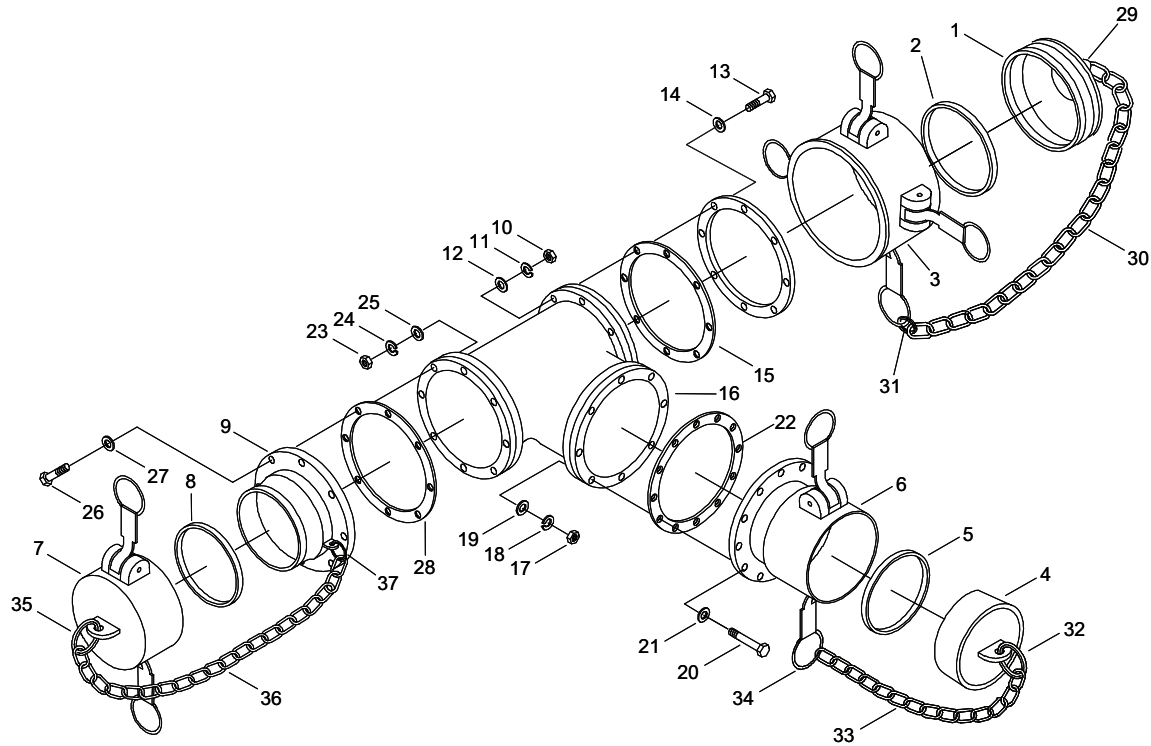

Figure 1. 6 In. Male X 6 In. Female X 4 In. Male Tee Assembly.
1. Remove split ring (Figure 1, Item 29) from quick disconnect dust cap (Figure 1, Item 1).
2. Remove split ring (Figure 1, Item 29) from chain (Figure 1, Item 30).
3. Remove split ring (Figure 1, Item 31) from coupling (Figure 1, Item 3).
4. Remove split ring (Figure 1, Item 31) from chain (Figure 1, Item 30).
5. Remove split ring (Figure 1, Item 32) from quick disconnect dust plug (Figure 1, Item 4).
6. Remove split ring (Figure 1, Item 32) from chain (Figure 1, Item 33).
7. Remove split ring (Figure 1, Item 34) from coupling (Figure 1, Item 6).
8. Remove split ring (Figure 1, Item 34) from chain (Figure 1, Item 33).
9. Remove split ring (Figure 1, Item 35) from quick disconnect dust plug (Figure 1, Item 7).
10. Remove split ring (Figure 1, Item 35) from chain (Figure 1, Item 36).
11. Remove split ring (Figure 1, Item 37) from coupling (Figure 1, Item 9).
12. Remove split ring (Figure 1, Item 37) from chain (Figure 1, Item 36).
13. Remove quick disconnect dust cap (Figure 1, Item 1) and gasket (Figure 1, Item 2) from coupling (Figure 1, Item 3).
14. Remove quick disconnect dust cap (Figure 1, Item 4) and gasket (Figure 1, Item 5) from coupling (Figure 1, Item 6).
15. Remove quick disconnect dust plug (Figure 1, Item 7) and gasket (Figure 1, Item 8) from coupling (Figure 1, Item 9).
16. Discard gaskets (Figure 1, Items 2, 5 and 8).
17. Remove twelve nuts (Figure 1, Item 10), twelve lock washers (Figure 1, Item 11), twelve flat washers (Figure 1, Item 12), twelve bolts (Figure 1, Item 13), twelve flat washers (Figure 1, Item 14), coupling (Figure 1, Item 3) and gasket (Figure 1, Item 15) from tee (Figure 1, Item 16).
18. Discard gasket (Figure 1, Item 15) and lock washers (Figure 1, Item 11).
19. Remove eight nuts (Figure 1, Item 17), eight lock washers (Figure 1, Item 18), eight flat washers (Figure 1, Item 19), eight bolts (Figure 1, Item 20), eight flat washers (Figure 1, Item 21), coupling (Figure 1, Item 6) and gasket (Figure 1, Item 22) from tee (Figure 1, Item 16).
20. Discard gasket (Figure 1, Item 22) and lock washers (Figure 1, Item 18).
21. Remove twelve nuts (Figure 1, Item 23), twelve lock washers (Figure 1, Item 24), twelve flat washers (Figure 1, Item 25), twelve bolts (Figure 1, Item 26), twelve flat washers (Figure 1, Item 27), coupling (Figure 1, Item 9) and gasket (Figure 1, Item 28) from tee (Figure 1, Item 16).
22. Discard gasket (Figure 1, Item 28) and lock washers (Figure 1, Item 24).